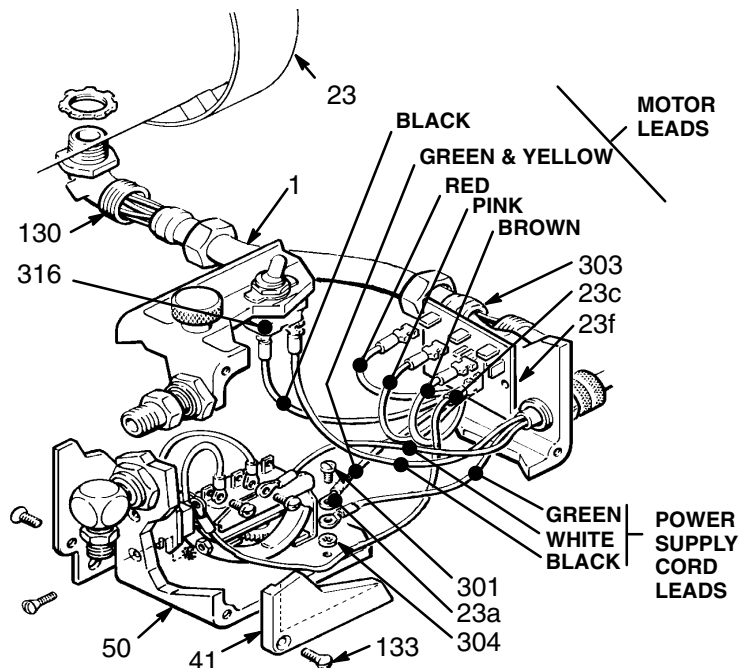

Fig 19
4. Remove the pressure control cover (41). Disconnect the motor leads. See Fig 19.
5. Unscrew the connector (130 and 303) nuts on both ends of the conduit (1).
6. Remove the screws (7), nuts (3) and lockwashers (4). Lift the motor while carefully guiding the wires through the connector (303) in the pressure control. Remove the conduit (1) from wires. See Fig 19.
7. Loosen the locknut and unscrew the connector (130) from the motor, being careful to avoid twisting the wires. See Fig 19.